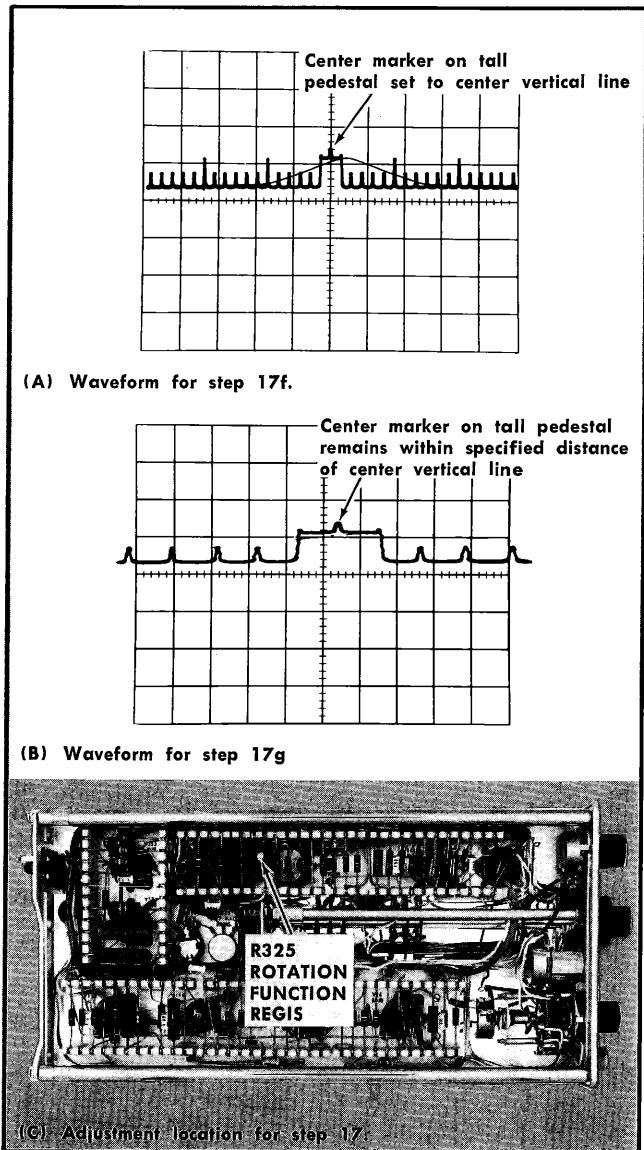

Fig. 5-30. Waveforms and adjustment location for step 17.
f. While rotating the shaft, adjust the 2B67 POSITION control as necessary to set the tall pedestal's center marker exactly to the center vertical graticule line as in Fig. 5-30(A).
g. CHECK—Rotational Function WIDTH registration. Rotate the 2B67 WIDTH control fully clockwise and note that the center marker on the tall pedestal remains within 2 divisions of graticule center. See Fig. 5-30 (B).